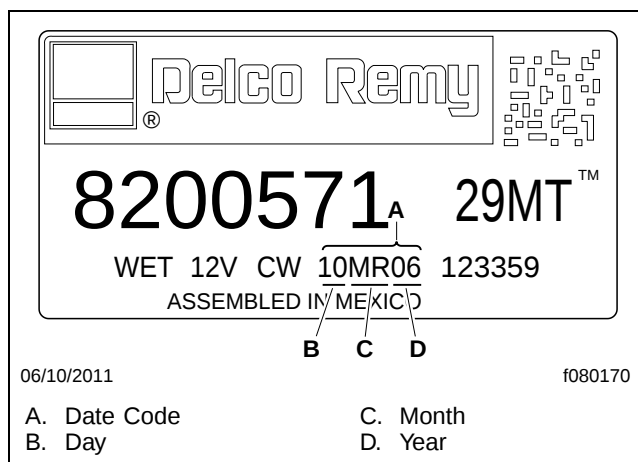

Fig. 1, Starter Label
4. Inspect the date code on the label, located in the area shown in **Fig 1**, to determine if the starter requires replacement. The date codes of starters that must be replaced are within the range of 09FE11 (9 February 2011) through 18MR11 (18 March 2011). If the starter label is missing or unreadable, replace the starter.